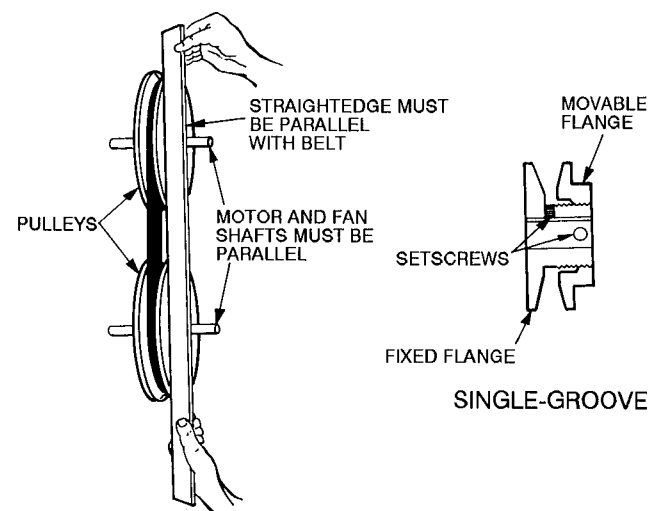

Fig. 30 – Evaporator-Fan Pulley Adjustment
3. Loosen movable pulley flange setscrew (see Fig. 30).